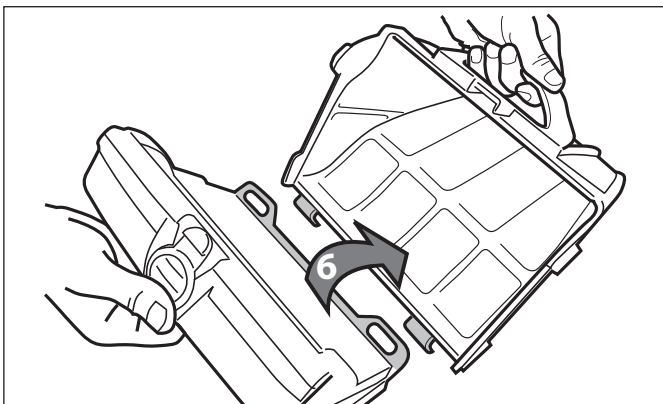

Figure 22. Remove Filter Canister
- Separate the filter canister from the filter support (6), as shown in Figure 22.